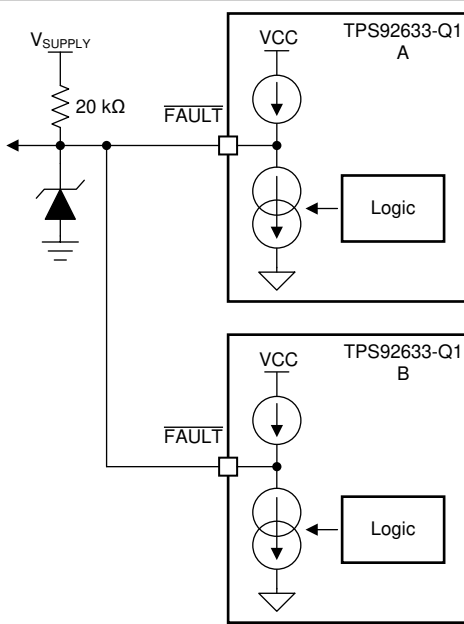
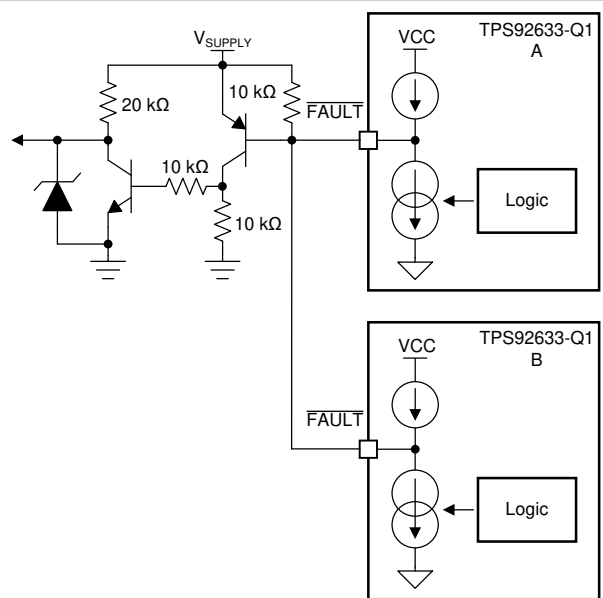

图 7-12. FAULT Bus For One-Fails-All-Fail Application
图 7-13. FAULT Bus For One-Fails-Others-On Application
Based on this feature, the TPS92633-Q1 device is able to construct a FAULT bus by tying FAULT pins from multiple TPS92633-Q1 devices to achieve one-fails-all-fail function as 图 7-12 showing. The lower side TPS92633-Q1 (B) detects any kind of LED fault and pulls low the FAULT pin. The low voltage on FAULT pin is detected by upper side TPS92633-Q1 (A) because the FAULT pins are connected of two devices. The upper side TPS92633-Q1 (A) turns off all output current for each channel as a result. If the FAULT pins of each TPS92633-Q1 are all connected to drive the base of an external PNP transistor as illustrated in 图 7-13, the one-fails – all-fail function is disabled and only the faulty channel is turned off.